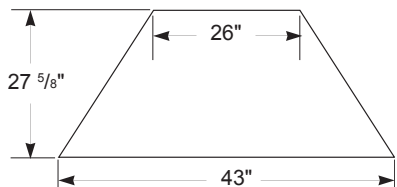

Figure 3 - Fireplace Bottom Dimensions
- If your fireplace is to be installed directly on carpeting, vinyl tile or any combustible material other than wood, it must be installed on a metal or wood panel extending the full width and depth of the fireplace (see Figure 3).